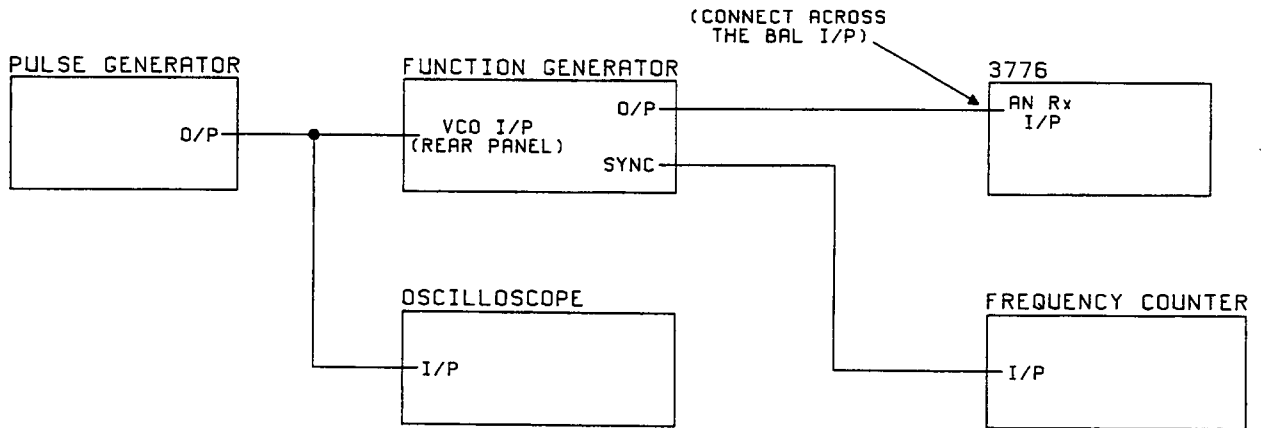

Figure G9-5 Phase Hits Test Set-Up
1. Connect the test circuit as shown in Figure G9-5 with 3776 Assembly A5 mounted on the extender board.